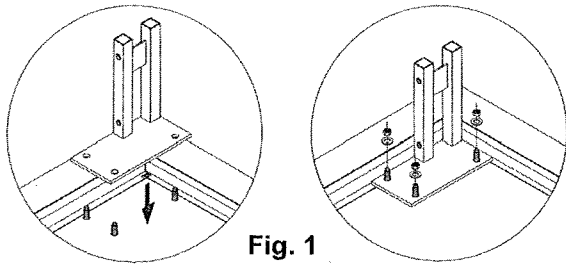

Fig. 1
6. Place base channel assembly (Side), left and right, on top of the concrete foundation. Use screw size: dia. 5mm. X 1-12" (not provided) to fix channels to the foundation. Join all channel corners with eight (S1) screws. See fig. 1,2 &3.
7. Place column support footings left, right & middle (CP001, CP002, CP003) on top of concrete foundation. Fix all footings **hand tight** in front, middle & back. See fig. 1 & 2.